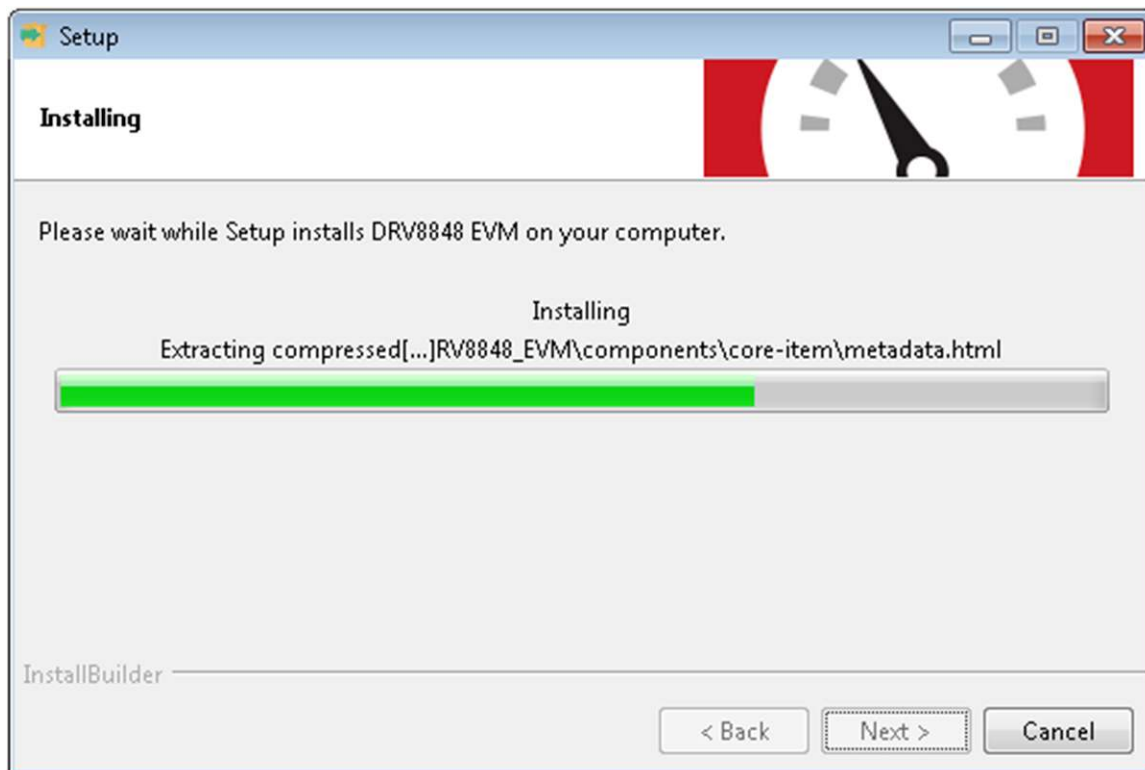

Figure 7. Installation in Progress
- Step 6. After the self-extraction of GUI Composer component, the installer will proceed with the installation as shown in Figure 7.